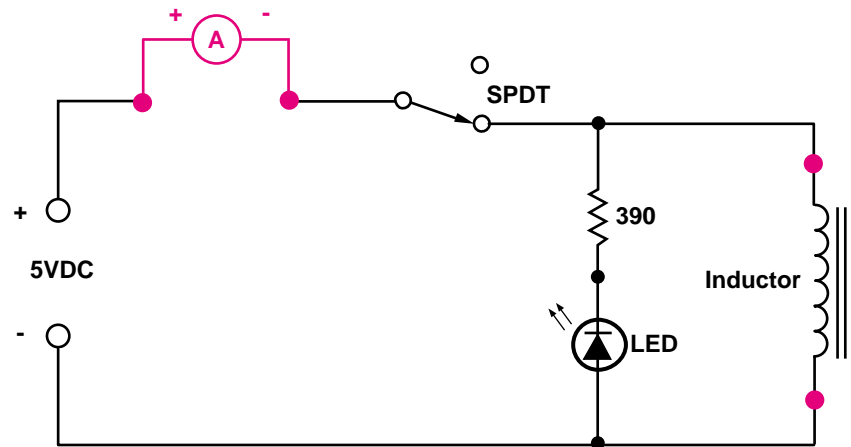

Figure 11
- ❑ 11. Replace the jumper wire with the leads fitted with spring tips. Connect the other ends of the leads to the current input on the DMM. See Figure 11. Be sure to observe proper polarity.
5. When the switch was opened, stopping the flow of DC current in the circuit of Figure 11, was the polarity of the EMF the same as or opposite to the polarity of the applied voltage?